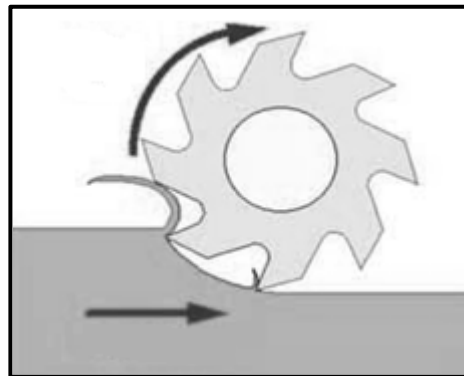

FIGURE 5.2.1
5.2 Identify the milling processes indicated in FIGURES 5.2.1 and 5.2.2 below.